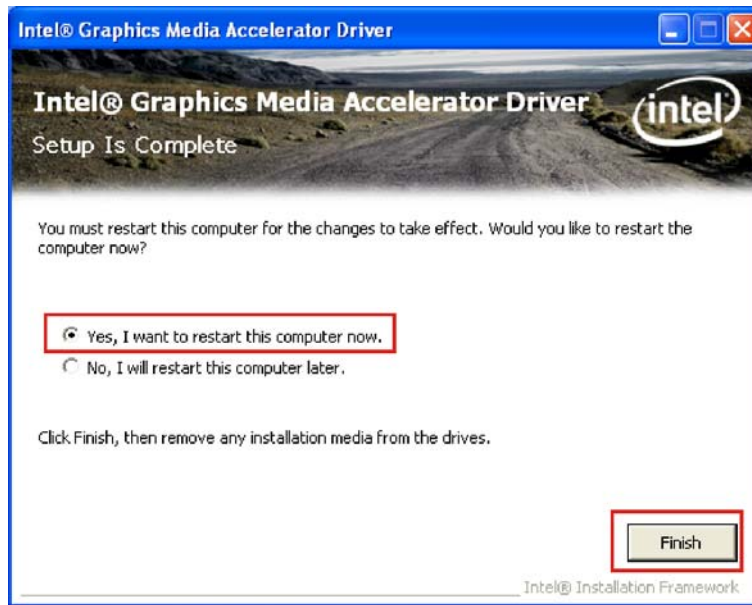

Figure 6-15: VGA Driver Installation Finish Screen
Step 16: Select “Yes, I want to restart the computer now” and click **FINISH**. See Figure 6-15.